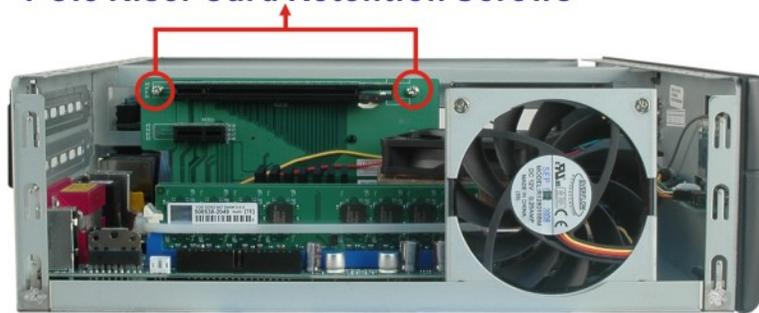

Figure 8-19: PCIe Riser Card Retention Screws
Step 3: Remove the two retention screws on the PCIe riser card (**Figure 8-19**).